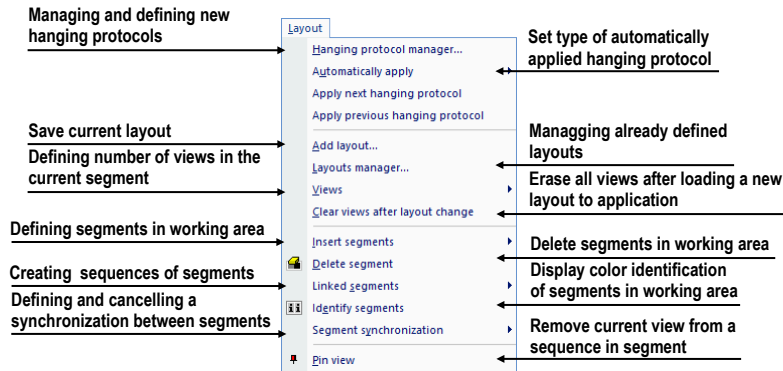

Figure 46 – Layout menu
- **Layout** – the functions for managing layouts and hanging protocols in TomoCon, such as creating a layout or hanging protocol, defining sequences or synchronizations, etc. (see Figure 46).